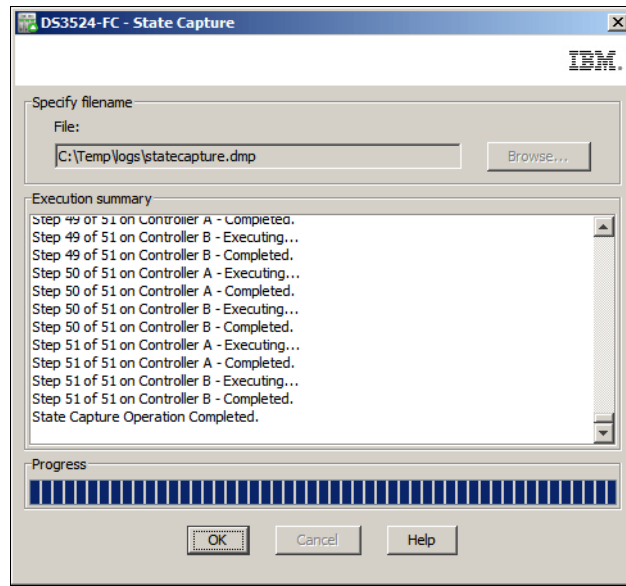

Figure 14-14 State Capture completed
3. Figure 14-14 on page 338 shows the State Capture window after the state capture information has been saved to a file.